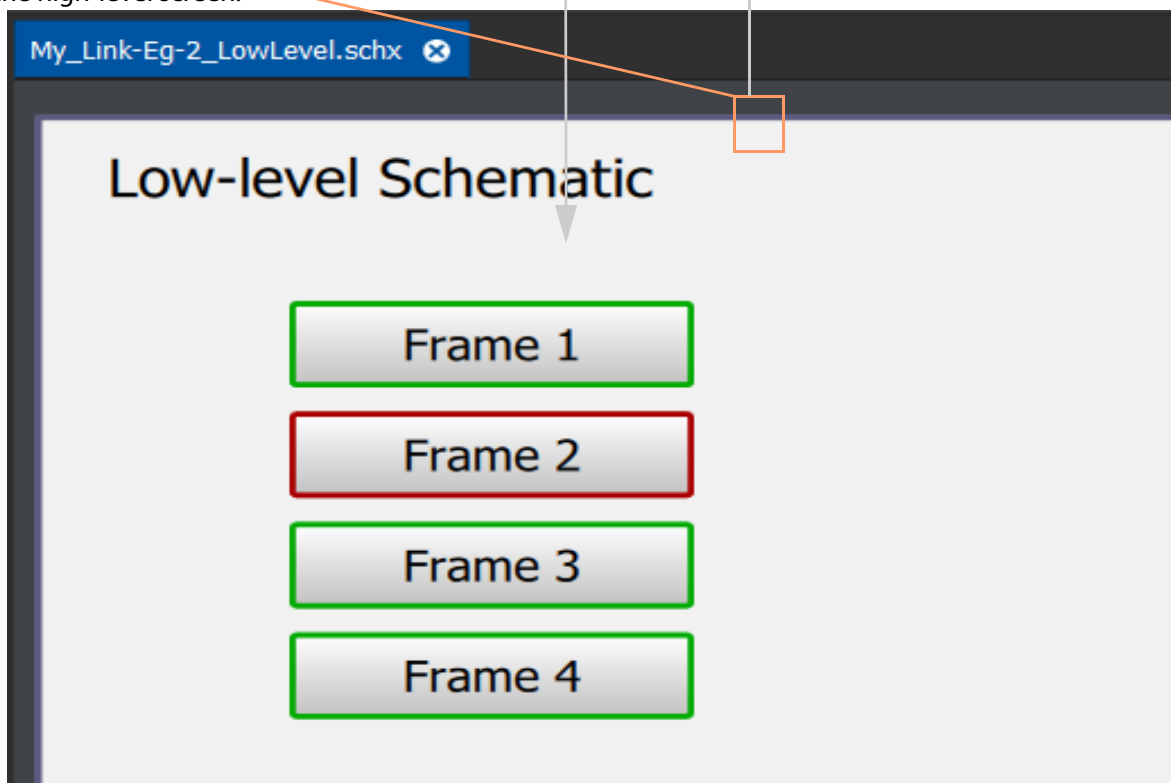

Fig. 8-11: Exercising the Link Behaviour
Orbit enters 'Run Mode'. See Figure 8-11.
- 3 To exercise the **Link** functionality, click the button on the Orbit MapView screen to open the low-level screen. See Figure 8-11.